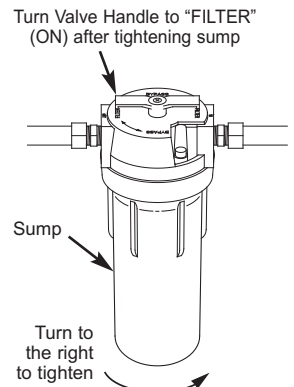

Fig. 3
8. Partially open a house faucet downstream of the filtration system. Then, turn the valve handle to the "FILTER" (ON) position (See Figure 3) and allow the filtration system to fill with water.